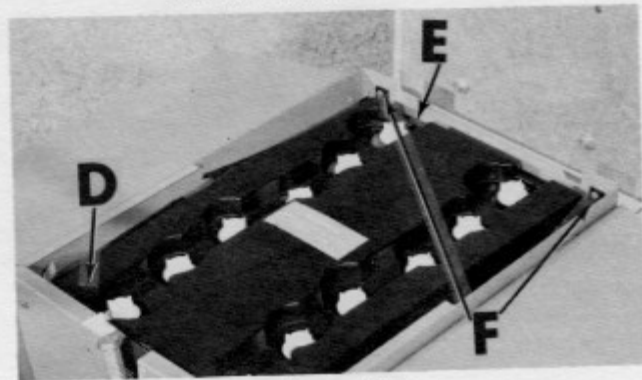

Figure 33
7. Place the plastic cover "D", Fig. 33 over the batteries and **inside** the bag, making sure the battery cables go through the side slot of the cover.
8. Place the hold-down clamps "E", Fig. 33 at the front & rear of the battery cover, but outside of the bag so that the bag is held captive **between** the clamps and the cover.
9. Secure each clamp with a screw, nut, and lock-washer at each end at "F", Fig. 33.